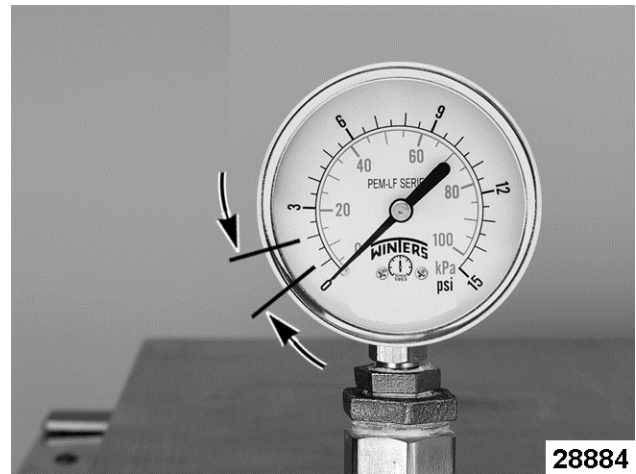

Fig. 74
- C. Observe pressure gauge Fig. 74 as steam is being generated. Gauge should level out at approximately 1.25 to 2.0 psi, but will oscillate with respect to fill water entering generator tank.